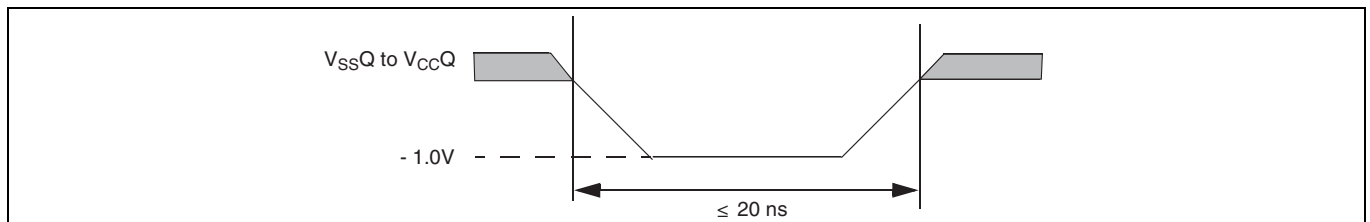
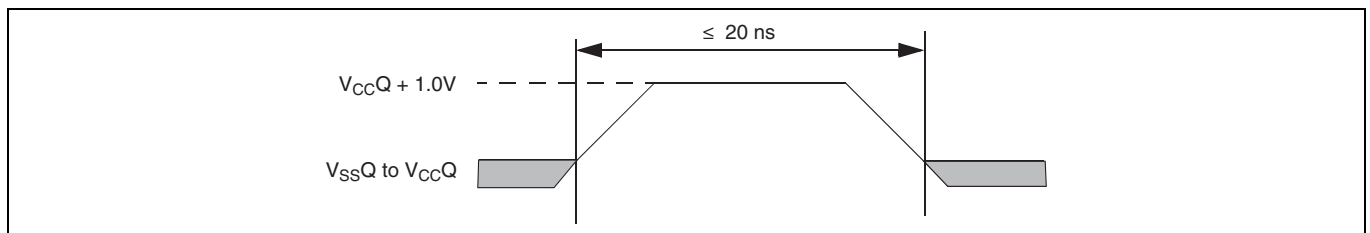

Figure 27 Maximum negative overshoot waveform
Figure 28 Maximum positive overshoot waveform
30. Minimum DC voltage on input or I/O signal is -1.0V. During voltage transitions, input or I/O signals may undershoot VSS to -1.0V for periods of up to 20 ns. See Figure 27. Maximum DC voltage on input or I/O signals is VCC +1.0V. During voltage transitions, input or I/O signals may overshoot to VCC +1.0V for periods up to 20 ns. See Figure 28.